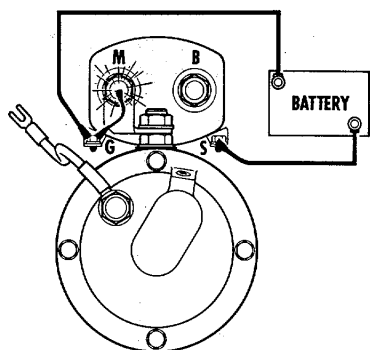
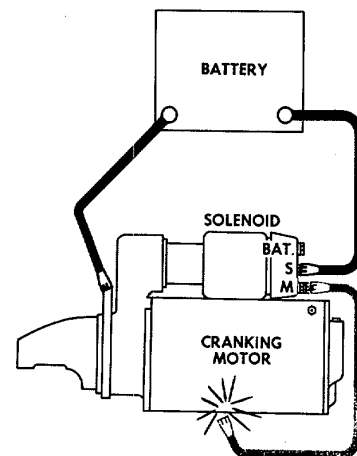

Figure 23-Circuit for checking pinion clearance. (Types shown in Figures 1, 2 and 3.)
Figure 24-Circuit for checking pinion clearance. (Types shown in Figures 4 and 5.)
1. Make connections as shown in Figure 23 or Figure 24.
2. **Momentarily** flash a jumper lead shown in blue color in Figure 23 or Figure 24. The drive will now shift into cranking position and remain so until the battery is disconnected.